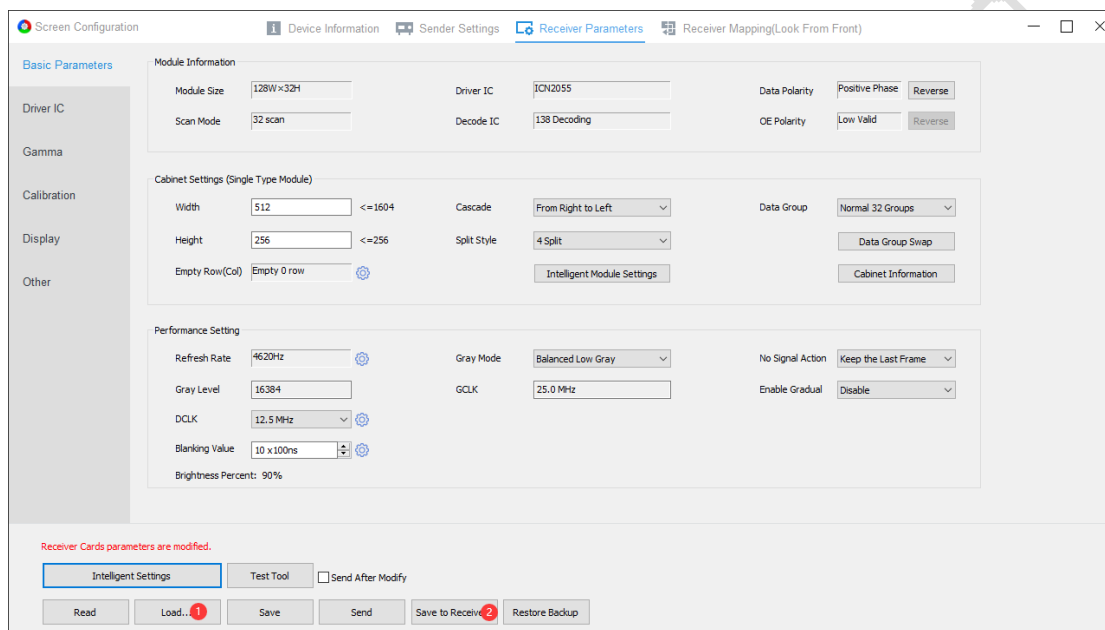

Fig 2.3.1 Save receiver parameters
Step 3: After the parameters are configured, click the **Save to Receivers** button to save the parameters on the receiver cards, as shown in Figure 2.3.1.